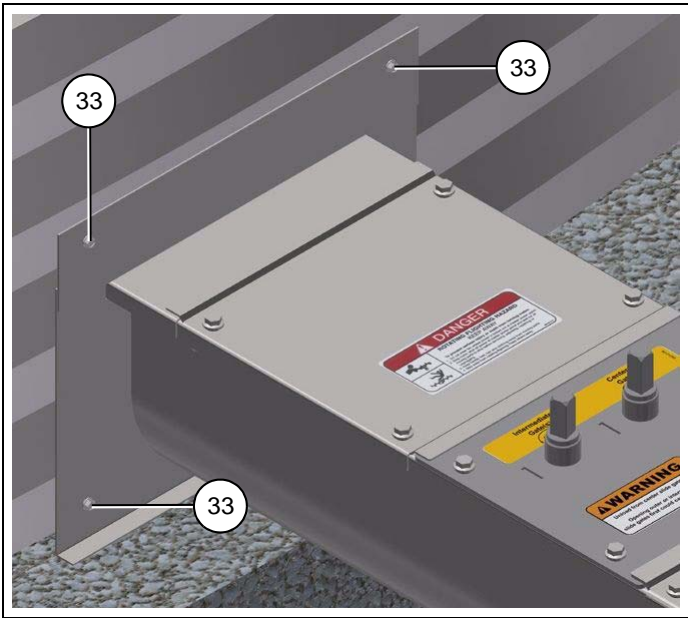

Figure 4D
4. Secure the bin wall flange with self-tapping screws (33) as shown in Figure 4D.